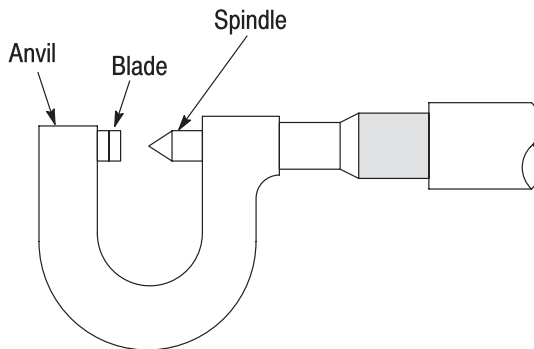
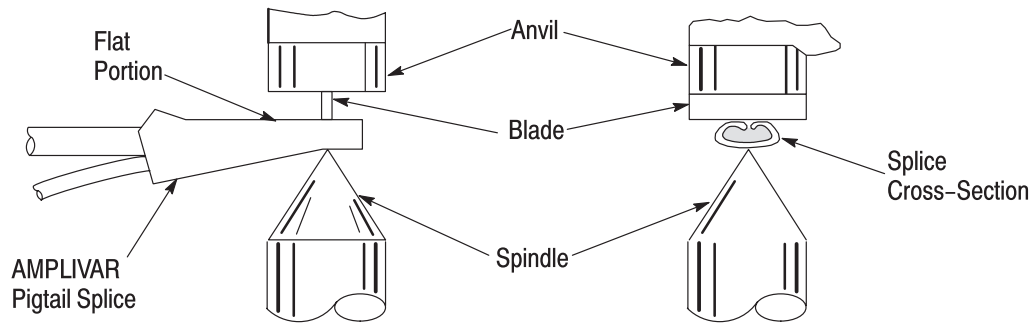

Figure 17
Figure 18
2. Using a crimp height comparator as shown in Figure 17, measure the crimp height of the termination as shown in Figure 18. The crimp height must be within ± 0.08 mm [.003 in.] of the measurement specified for the type terminal and size wire being used, as obtained from your Tyco Electronics Field Service Engineer.